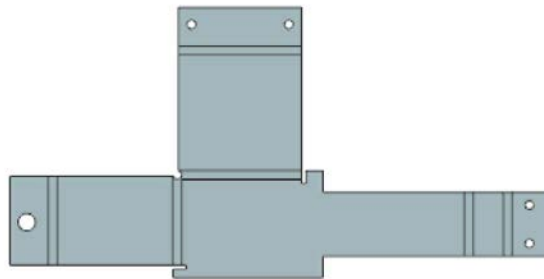

Figure 14-134 Flat solid of the sheet metal part
2. Select the front face of the sheet metal part and then choose the **OK** button; the flat solid of the model is created, as shown in Figure 14-134. Next, hide the sheet metal part.